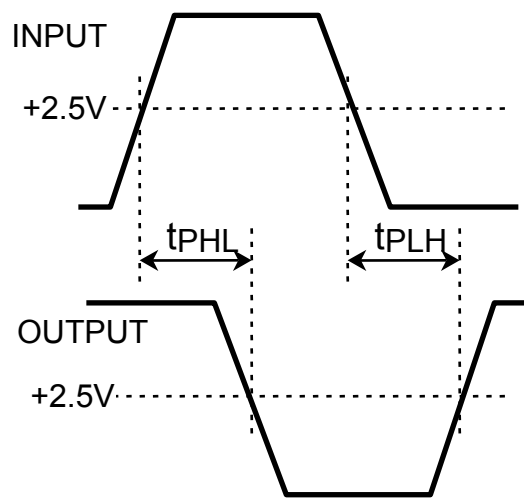

Figure 3-5
- L14. Measure the high-to-low (t_{PHL}) and low-to-high (t_{PLH}) propagation delays as defined in Figure 3-5. Note that the waveforms in Fig. 3-5 are only for definition of the t_{PHL} and t_{PLH} quantities; your waveform shapes will probably be different!
- W9. Analysis: Derive equations (in terms of R_L , C_L , and r_{DS}) predicting the high-to-low (t_{PHL}) and low-to-high (t_{PLH}) propagation delays (as defined in Figure 3-5) for this logic gate.